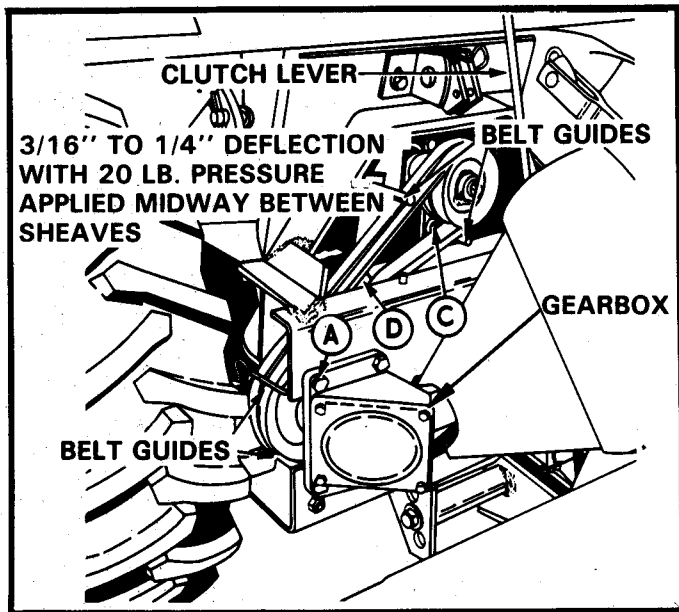

FIGURE 17
5. **Gear Box** — (Figure 17). Pack Gear Box with Ariens Multi-Purpose Grease, Part No. 000150.
Engage the tiller Clutch Lever and measure the distance between each of the four belt guides and the drive belts, Figure 17. There should be from 3/16" to 1/4" clearance between each guide and the drive belts with the Clutch Lever engaged. Adjust clearance by loosening bolts "A, B, C, D" and moving the guides until proper clearance is obtained. Tighten the bolts securely.
It is important that the drive belts are kept tight. If the Clutch Lever engages too easily or does not stay engaged, it will be necessary to adjust the belt tension. Proper tension is obtained when the belts deflect 3/16" to 1/4" with a 20 lb. force applied midway between the belt sheaves. (See Figure 17). Tension must be checked with the Clutch Lever engaged.